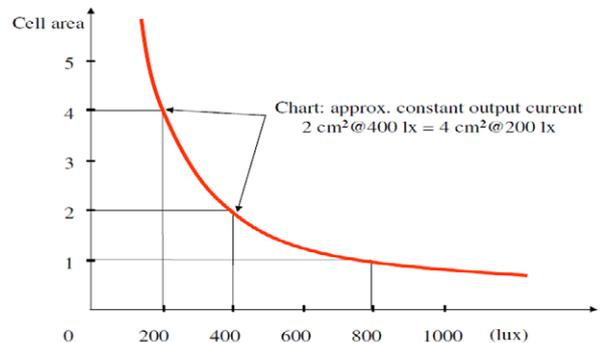

Fig. 6
As a rough, conservative estimation, indoors and for small area amorphous solar panels (a few cm²) an operating current in the range 10 μA/cm² @ 200 lx (FL) can be considered. This value can be roughly linearly extrapolated using a de-rating factor for lower illumination and/or smaller area. That corresponds e.g. to 4.5 μA/cm² @ 100 lx. A similar extrapolation approach is shown in Fig. 6.